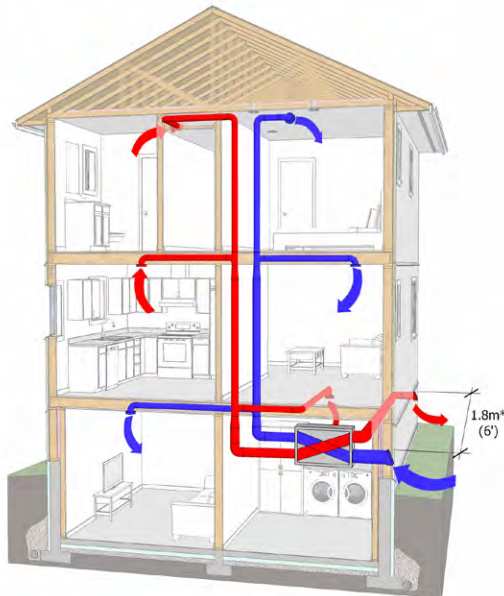

Figure 2: HRV system with trunk and branch system.
1. Standalone HRV system: In this configuration, the unit is fully ducted to each room and the exterior, with separate ductwork for both supply and exhaust distribution. Fully ducted systems are typically distinct from the space heating or cooling system. The ducting can either be trunk-and-branch, or home-run, as shown in Figures 2 to 5.